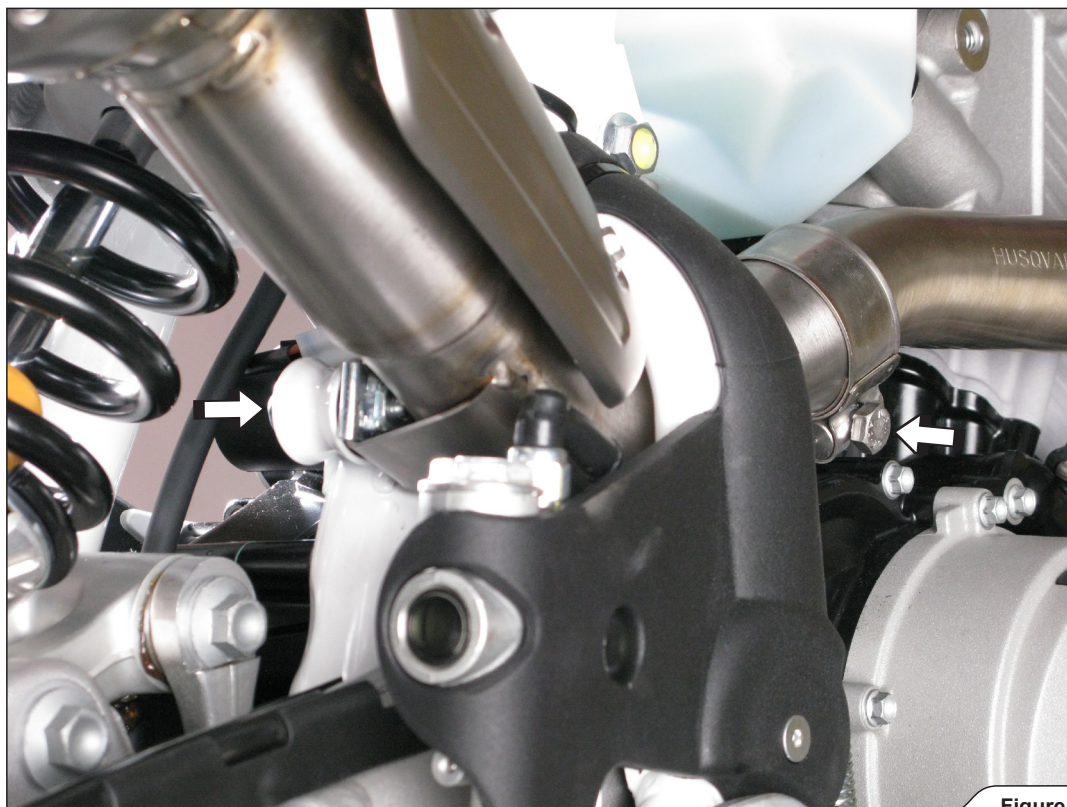

Figure 1
2. Unscrew the marked link pipe's bracket bolt and untighten the metal clamp (**Figure 1**).